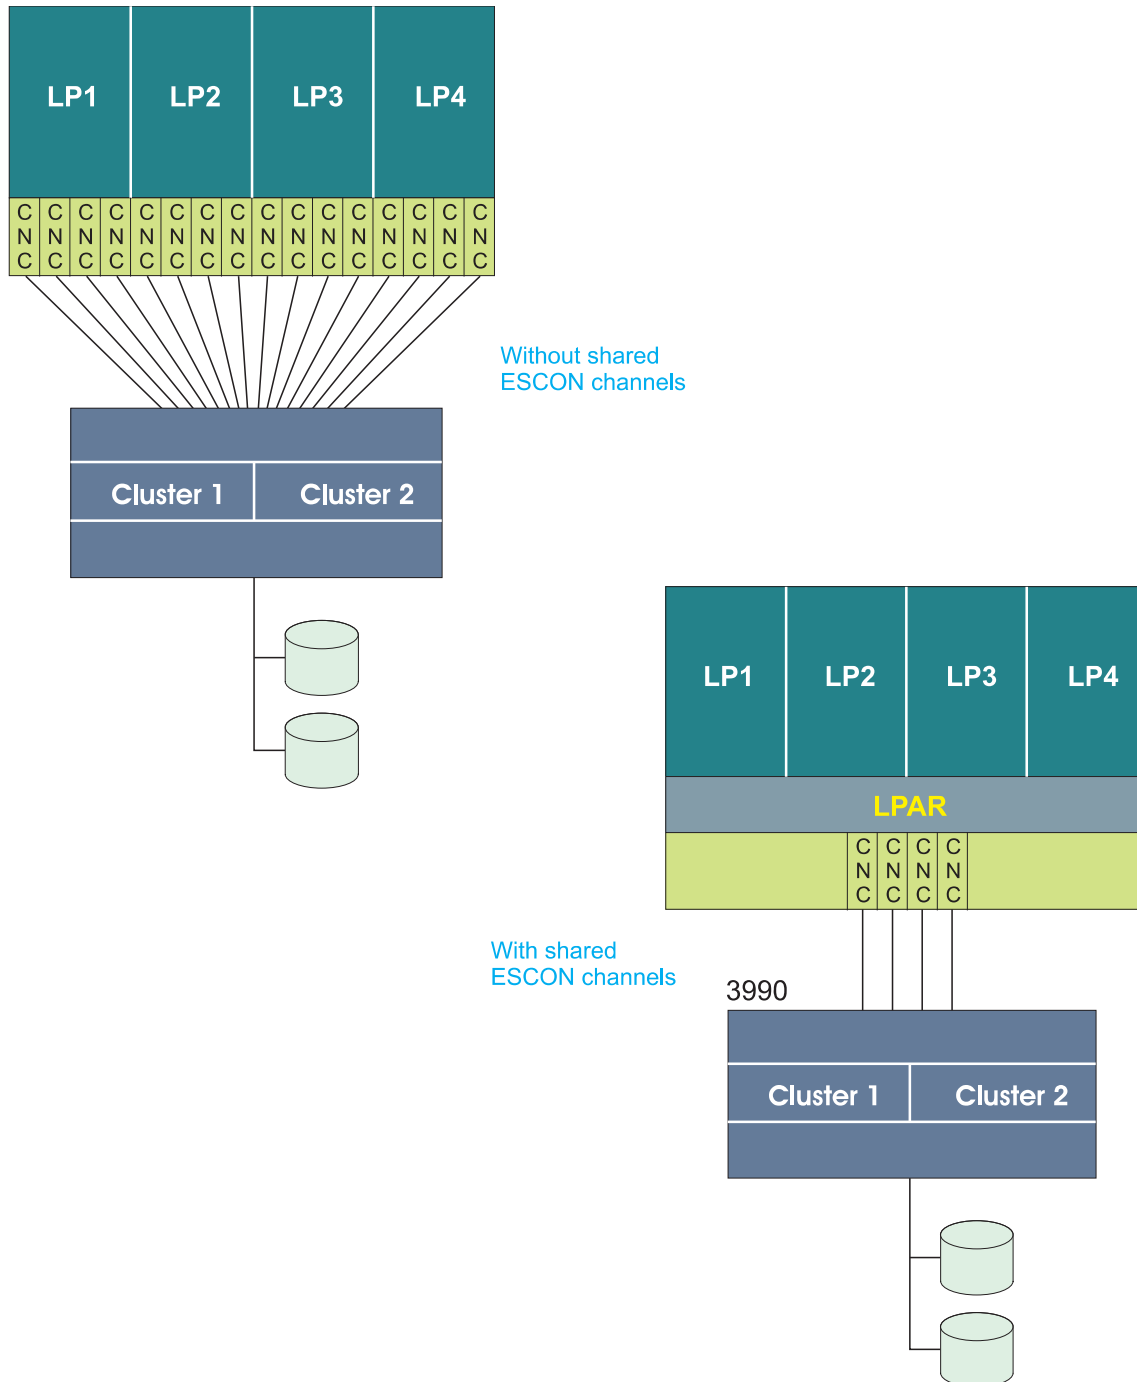

Figure 13. Consolidating ESCON channels and ESCON control unit ports
*ESCON configurations:* Figure 13 shows how four shared ESCON channels can replace 16 unshared (dedicated or reconfigurable) ESCON channels and use 12 fewer control unit ports.